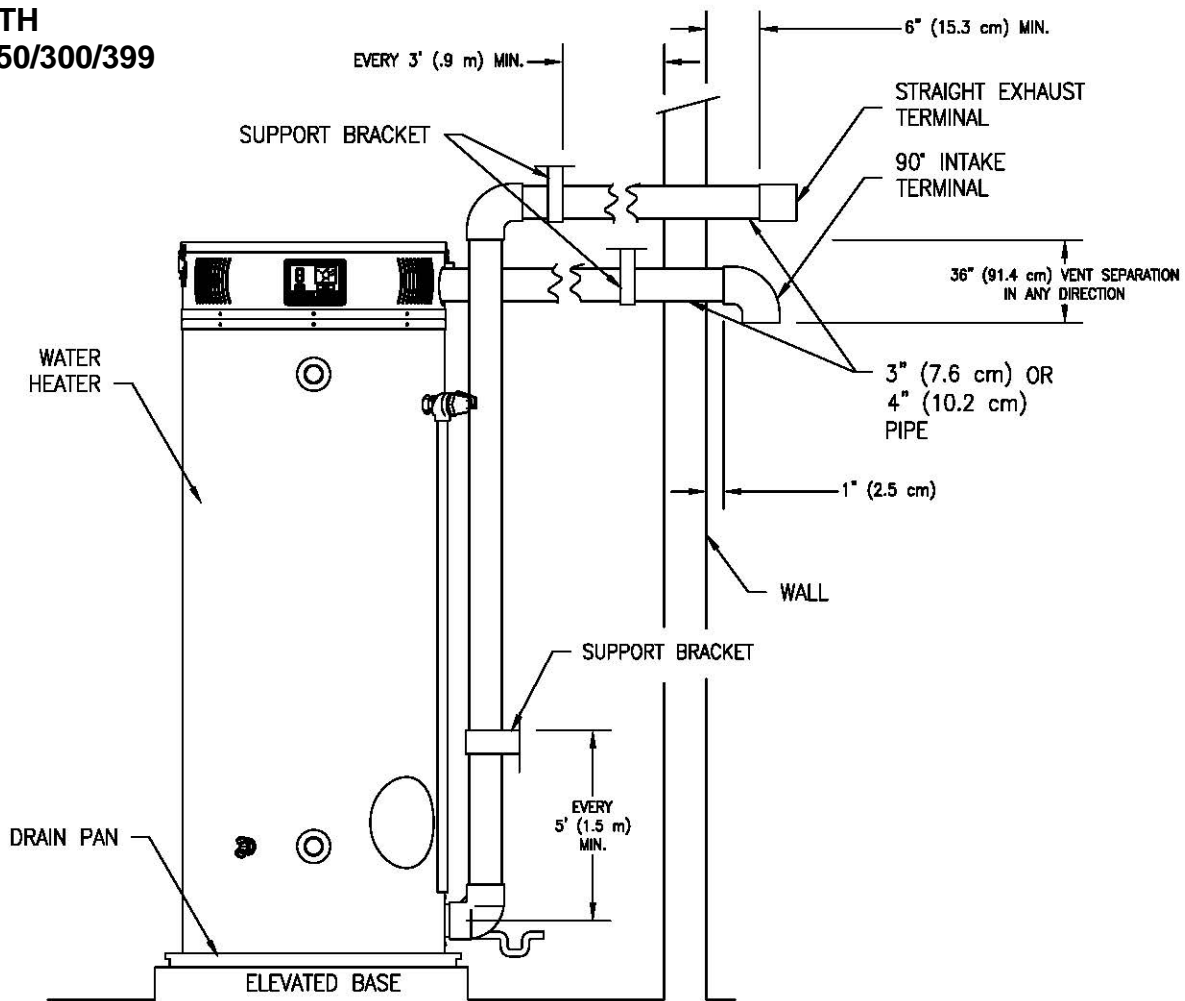

Figure 12. Typical Horizontal Direct Vent System.
2. Use the proper cement to secure the exhaust vent and air intake terminals provided with the water heater to the pipes. The distance between the back edge of the exhaust vent terminal and the exterior wall (see Figure 12) must be 6 inches (*12.7 cm*) more for the exhaust vent terminal than the air intake terminal. Use the proper cement or sealant and assembly procedures to secure the vent connector joints between the terminal and the blower outlet. Provide support brackets for every 3 feet (*.91 m*) of horizontal vent beyond the intake terminal.